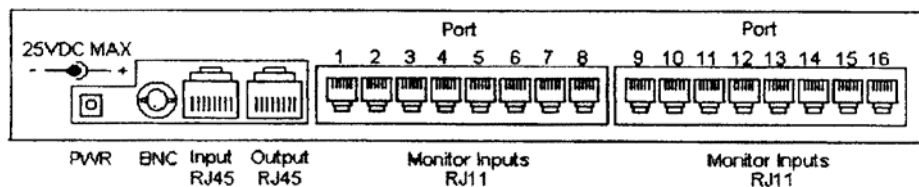

Figure 7, Rear View of SmartHub Chassis
3. Connect the RJ45 side of the cable to the Input (RJ45) port located on the back of the SmartHub chassis (Figure 7).
Connect your DC supply to the power jack located on the back of the SmartHub chassis, Figure 7. The address digits on the front of the SmartHub chassis will illuminate when power has been applied to the unit.